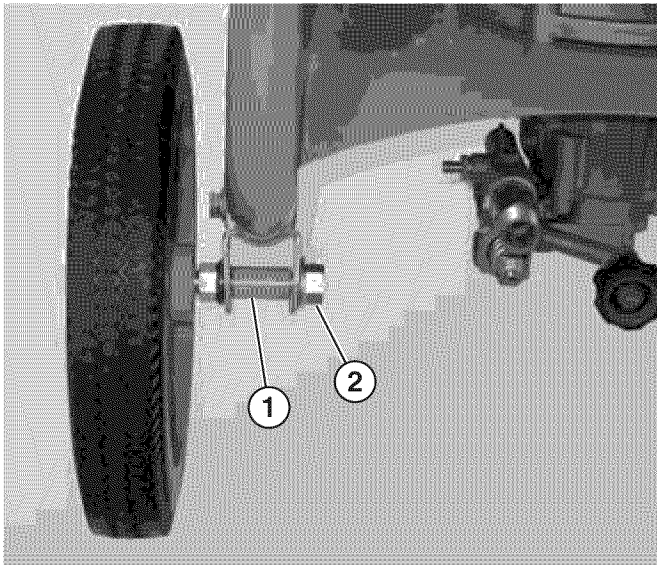

Figure 7 – Assemble Wheels to Frame
5. Install the wheel with bolt through the spacer and the frame (see Figure 7).
6. Install the serrated flange nut and tighten (see Figure 7).